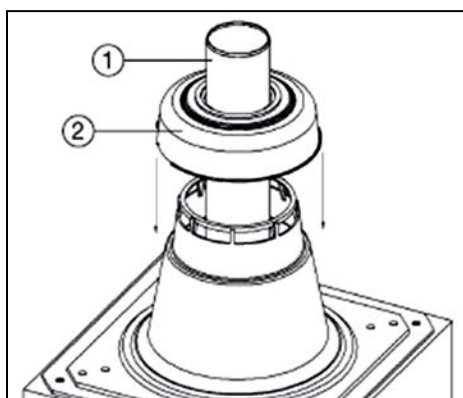

Figure 13 – Installing Termination Pieces
18. Install the metallic termination pipe (see Fig 13, 1). Assemble the shaft vent cap (2).